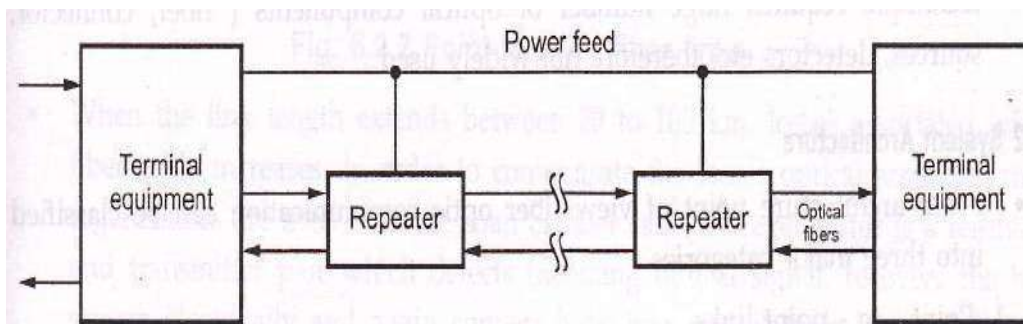

Fig. 6.2.1 Repeaters in long-haul communication system
- In long-haul communication applications repeaters are inserted at regular intervals as shown in Fig. 6.2.1